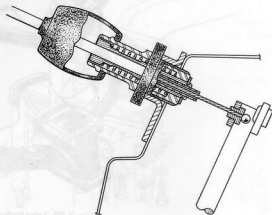

Fig. 3.43. Throttle cable pull-out sleeve in dash panel (Sec. 14)
- 3 On the end of the accelerator lever, unhook the wire and plastic bushing. Then from the engine compartment pull the cable from the bracket on the dash panel (Fig. 3.43).